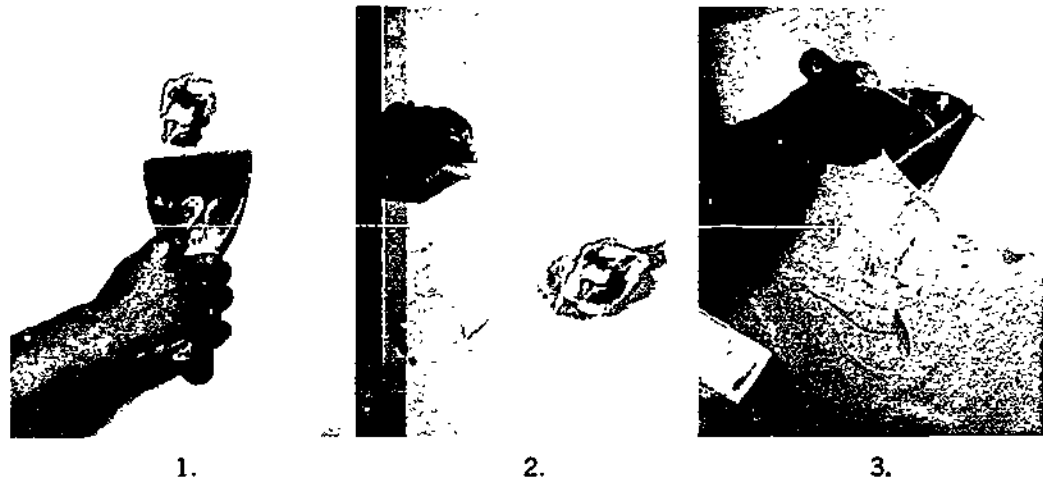

Figure 7-4
When the hole is large enough for more than one tape, it is best to laminate the tapes (Figure 7-4). To laminate tapes and set the patch in place:
6. Wipe the tapes to the wallboard and feather the edges around the patch. Note in Figure 7-4 that the patch is wiped in a circular motion so that the blade runs parallel to all edges of the tape.